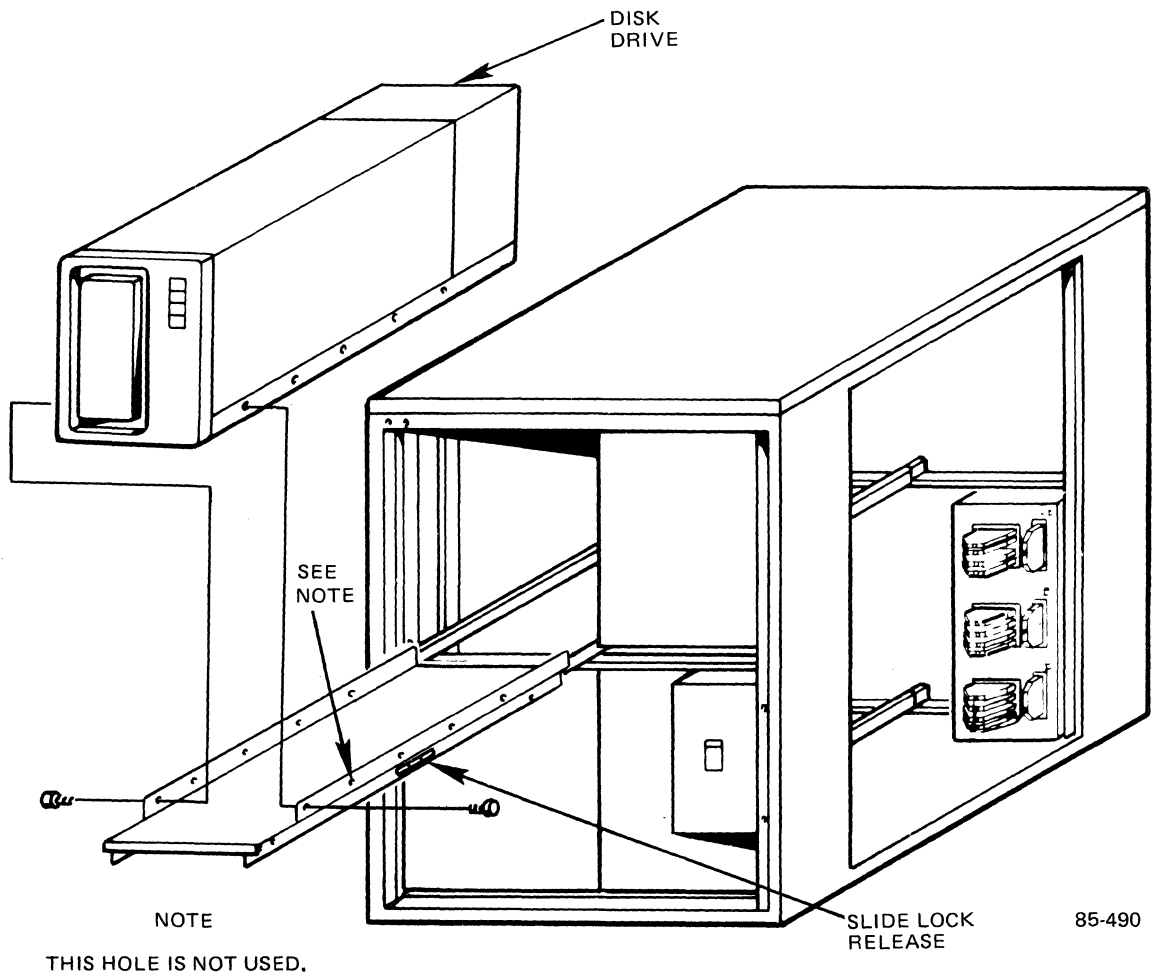

Figure 2-13. Disk Drive Installation
10. Lift the disk drive and place it in the mounting pan. Ensure the holes are lined up as shown in Figure 2-13.
13. Slide the disk drive into the cabinet by lifting the slide lock release (see Figure 2-13) on each side and pushing the disk drive fully into the cabinet.